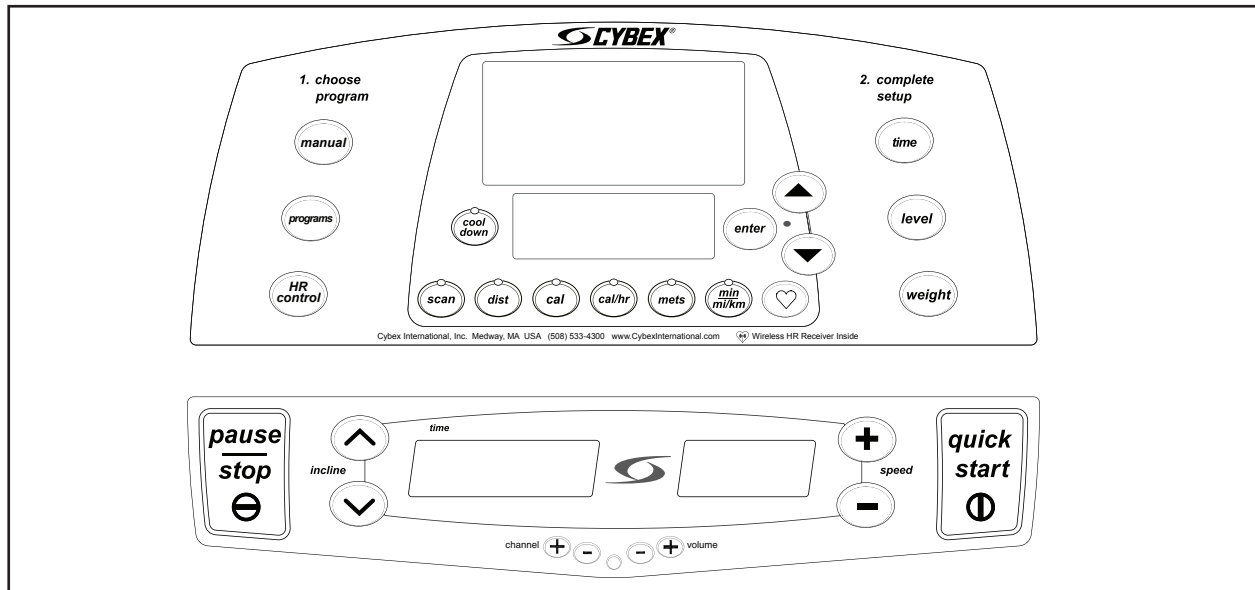

Figure 1
6. The treadmill begins a countdown, “3...2...1” and sounds a tone for each count. When it reaches one (1) the treadmill gives a longer tone and then starts accelerating the belt. In *Manual Mode* the belt will begin accelerating to 0.5 mph (0.8 kph) and the incline will remain at zero percent. In a program the belt will begin accelerating and the incline will change to the corresponding speed and incline of the program and level you selected.
8. Observe the three display windows. The top center window will scan (every three seconds) through **Distance**, **Calories**, **Calories per hour**, **Mets**, **Pace** and **Heart Rate**. Press the **Scan** key to toggle this feature on or off. **NOTE:** *Heart Rate is scanned only when you are holding the contact heart rate grips or wearing a Polar® compatible chest strap.* The left window will display the time. **NOTE:** *During your workout the time will show in the format of minutes:seconds (after 99:59 the display will only show minutes).* The right window will display the current speed. See Figure 1.